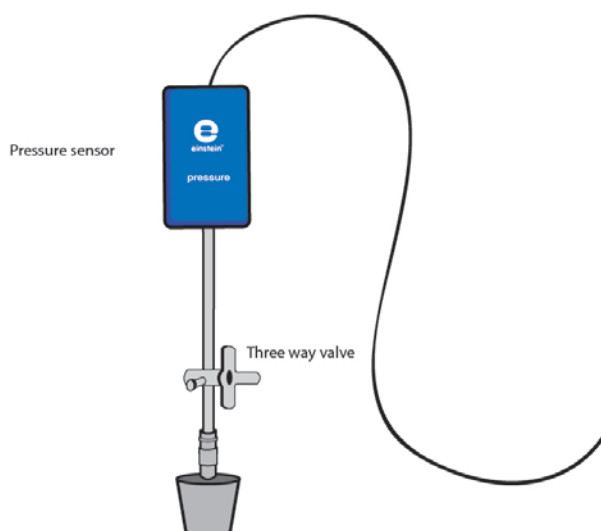

Figure 2
- a. Insert a syringe extender into the stopper (Figure 2).